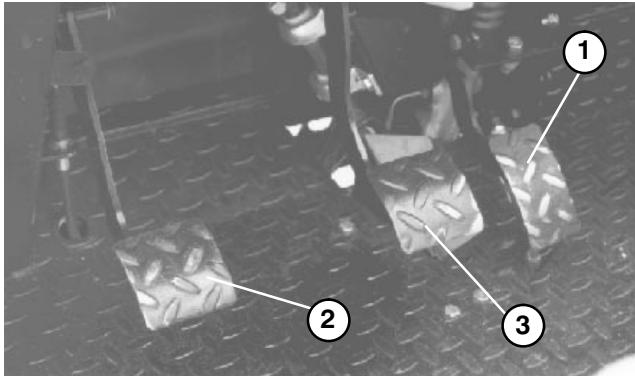

Figure 13
**Accelerator Pedal** (Fig. 13) – The accelerator pedal gives the operator the ability to vary engine and ground speed of the vehicle, when the transmission is in gear. Depressing the pedal increases engine RPM and ground speed. Releasing pedal will decrease engine RPM and ground speed of the machine.
**Clutch Pedal** (Fig. 13) – The clutch pedal must be fully depressed to disengage clutch when starting engine or shifting transmission gears. Release pedal smoothly when transmission is in gear to prevent unnecessary wear on transmission and other related parts.
**Brake Pedal** (Fig. 13) – The brake pedal is used to apply service brakes to stop or slow vehicle.